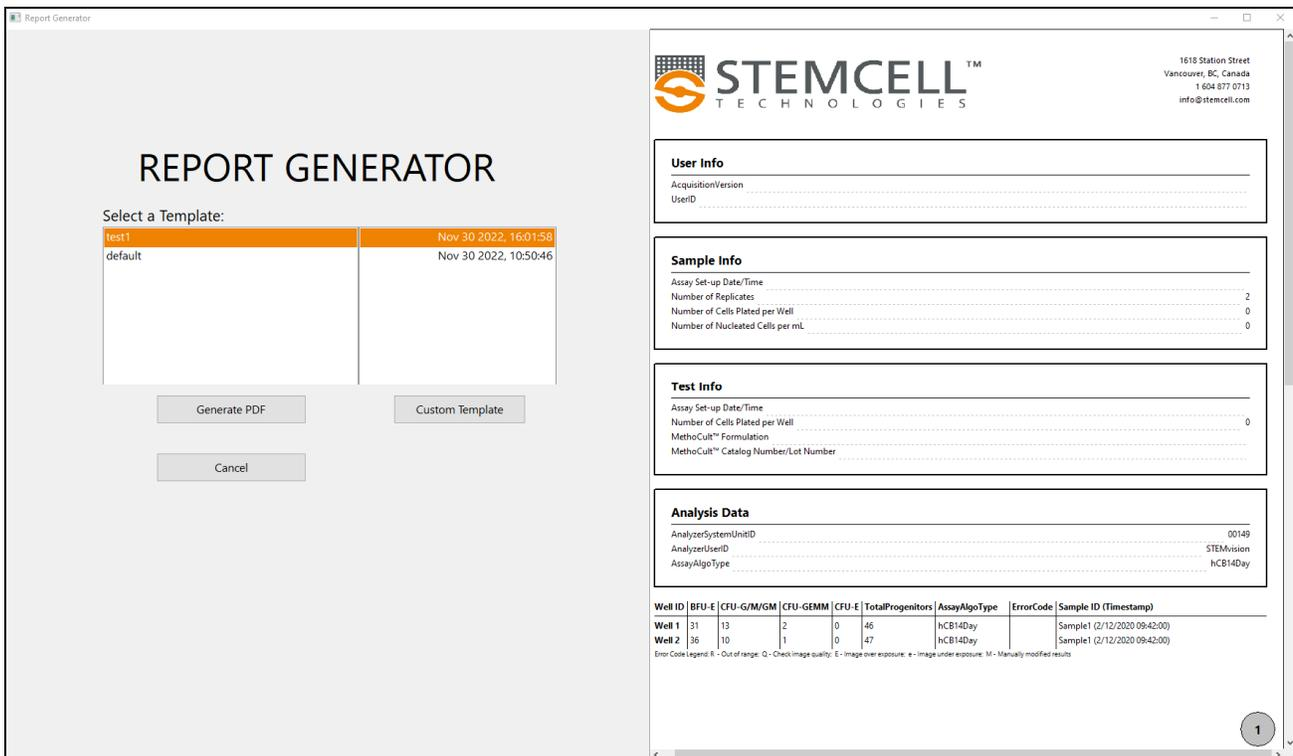

Figure 13. Custom Report Generator Application Window
3. Select a sample ID for which to generate a report using the steps described in generating a CFU assay report above. Click on either the “Preview”, “PDF”, or “Printer” button. The custom report generator window (Figure 13) will open.